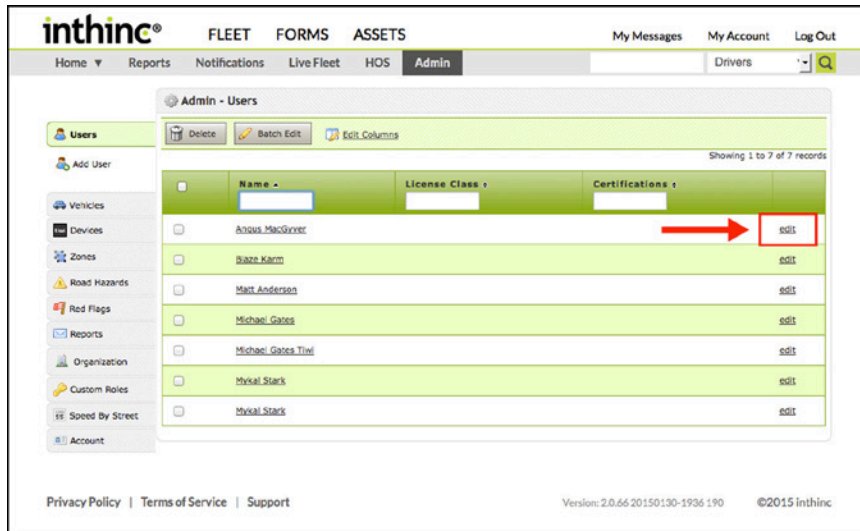

Figure 20 Admin > Users List with Edit link highlighted
- 2 Use the filter tool to locate the User in the list, then click the **Edit** link in the far-right column. (Figure 20)